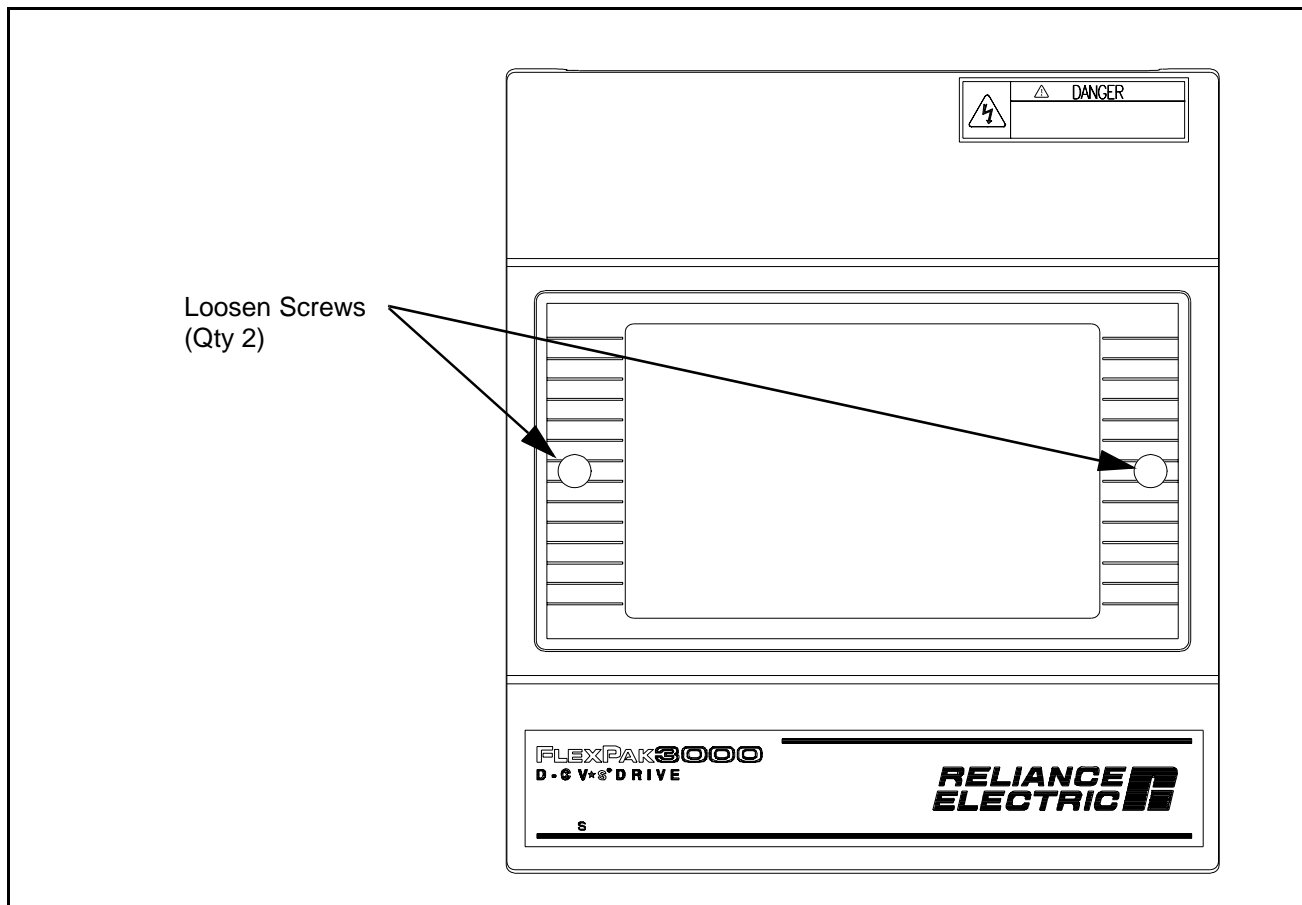

Figure 1 – Removing the OIM/DCM Cover
Use the following procedure to replace the Regulator board (P/N O-58770-4xx) in FlexPak 3000 drives. Refer to figures 1 through 7 as you perform the procedure. Note that if the Power Module has been panel-mounted, this procedure will be easier to perform if the Power Module is removed from the panel.
Step 2. Remove the OIM (or DCM) cover by loosening the two (2) cover retaining screws (refer to figure 1). Set the cover aside.